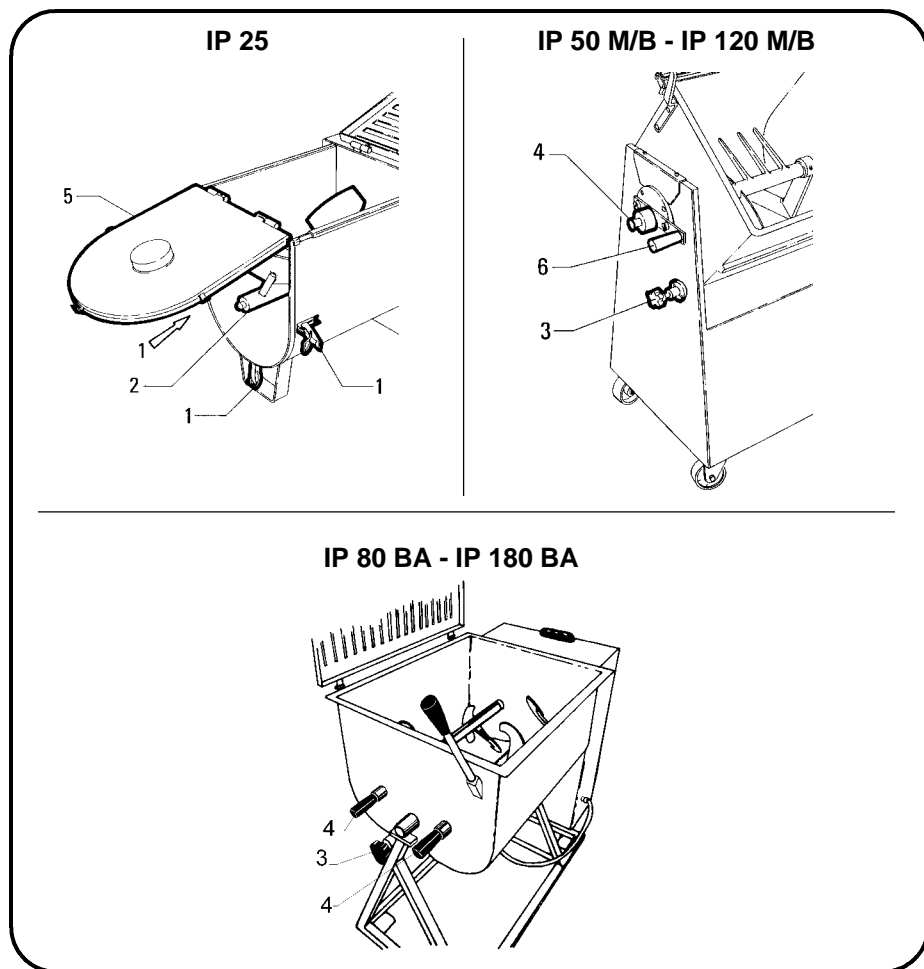
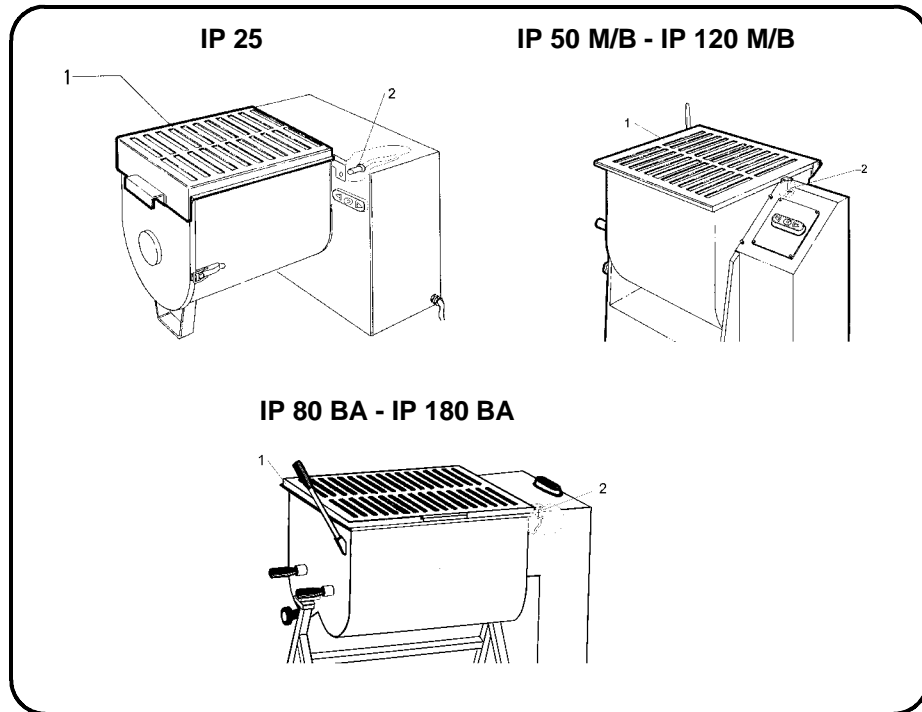

Fig. 6.2.1
Fig. 5.2.1
Switch the on/off switch to position "0". To empty and clean the mixing drum rotate it by pulling knob "3" fig. 6.2.1.
With the front panel "5" fig. 6.2.1 raised mount the rotor "2" fig. 6.2.1 onto its transmission shaft and by using one hand keep it raised above the mixing drum and close the front panel "5" fig. 6.2.1.
Hook the three hinges "1" fig. 6.2.1 and close the grille "1" fig. 5.2.1.
For mounting these rotors invert the procedure given in paragraph 6.4. Remember to mount the spacer for the twin-blade models IP 50 B and IP 120 B. The rotors have different nipples so make sure they are attached in their correct position. Then close grille "1" fig. 5.2.1.
Then close grille "1" fig. 5.2.1.
2. Raise the grille, unhook the three hinges "1" fig. 6.2.1, lift the front panel "5" fig. 6.2.1.
3. Remove all the mixture and rotor "2" fig. 6.2.1. Carefully clean the appliance, please refer to paragraph. 7.6.
1 - Rotor Protection grille (Fig. 5.2.1)
2 - Micro-switch (Fig. 5.2.1)